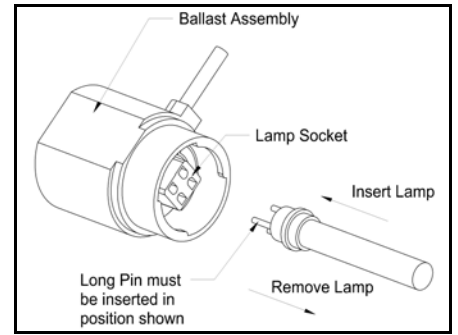

Figure 6
- Do not handle the lamp with bare hands. Oils on your hands tend to reduce lamp intensity. Install lamp into ballast. (See Figure 6)
3. Remove the lamp from the lamp socket. (See Figure 6)